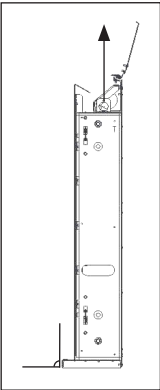

Figure 5: Lift Angle
**Note:** The lift lugs will be retracted into the sign and need to be lifted up before attaching a hook. Refer to **Figure 5**.